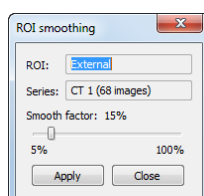

Figure 223 – ROI smoothing dialog
2. The **ROI Smoothing** dialog is then displayed (see Figure 223).